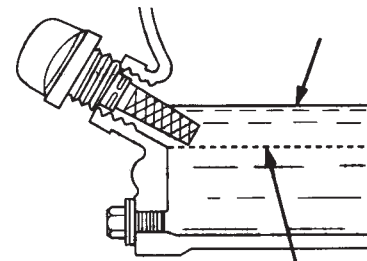

Figure 6. Engine Oil Dipstick (Oil Level)
4. If the oil level is low (Figure 6), fill to the edge of the oil filler hole with the recommended oil type (Table 3). Maximum oil capacity is 0.48 quarts (.45 liters).